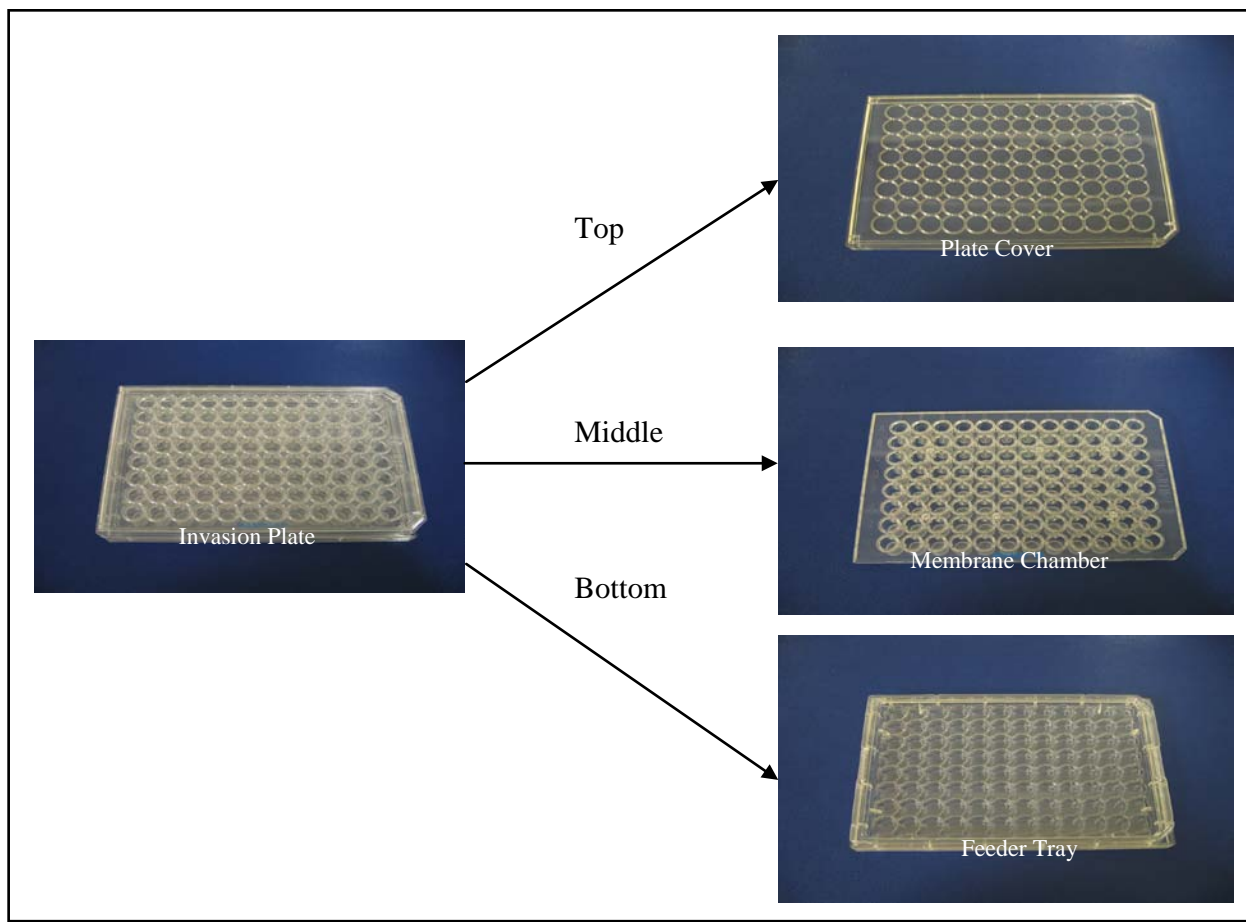

Figure 1: Components of the 96-well Collagen Cell Invasion Plate.
1. 96-well Laminin Invasion Plate (Part No. 111201-LN): One sterile 96-well plate containing laminin-coated inserts (see Figure 1 for components)